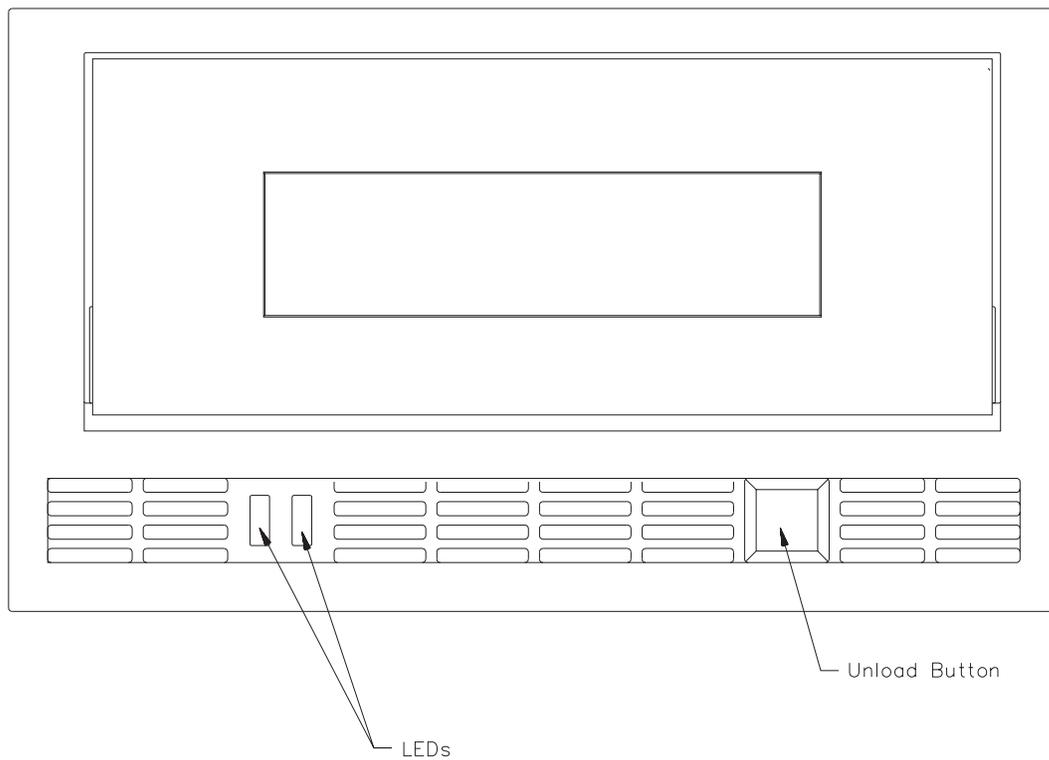

Figure 2-6
9. After the power-on self-test is complete, press the unload button (shown in Figure 2-6) and insert a cartridge into the EXB-8200.
2. Press the unload button, shown in Figure 2-6, and wait for the EXB-8200 to rewind the tape and unload the cartridge.